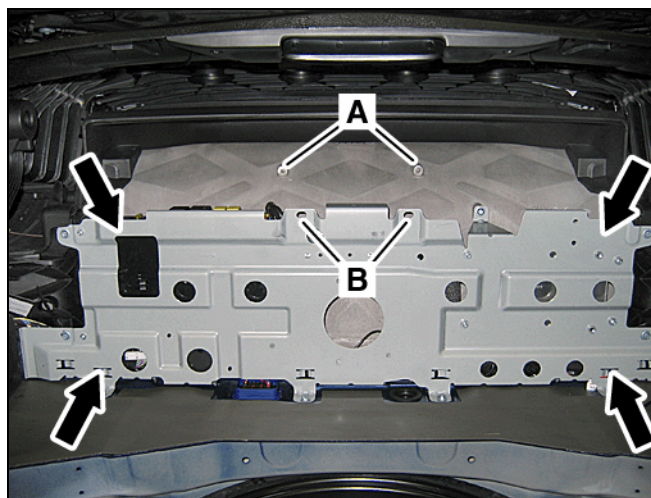
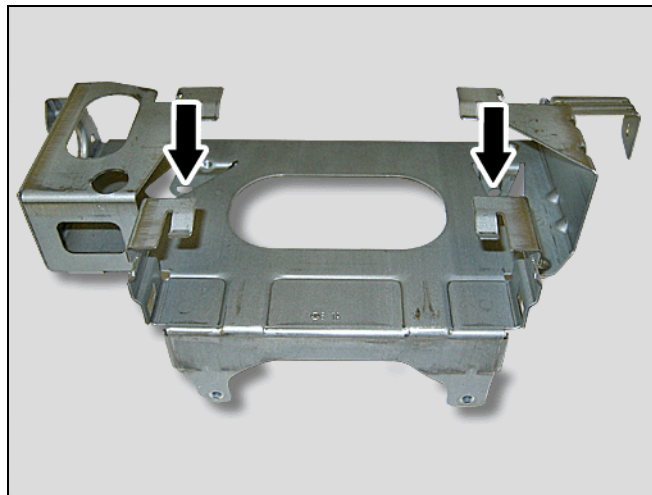
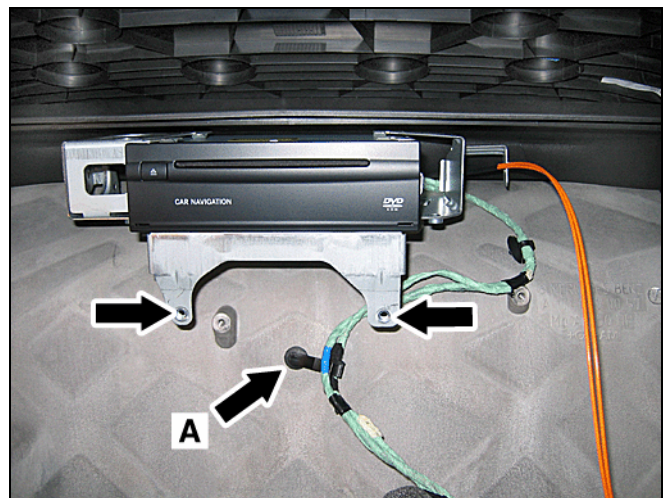

Figure 1
Figure 7
Figure 10
4. Remove the ten M6 screws securing the equipment carrier (Arrows, Figure 1) and lay the bracket on its face to expose the electronics components on its backside.
1. Mount the rear arms (Figure 7) of the bracket for the CAR NAVIGATION processor to the fixed tapping nuts (A, Figure 1) on the tank surface using the longer, kit-included self-tapping screws.
6. Carefully slide the CAR NAVIGATION processor into the bracket (Figure 10).
7. Insert the cable anchor (A, Figure 10) plug into the hole in the tank cover below the CAR NAVIGATION processor.
3. Fasten the front arms (Arrows, Figure 10) of the bracket for the CAR NAVIGATION processor to the mounting points (B, Figure 1) at the top of the equipment carrier using the shorter, kit-included self-tapping screws.